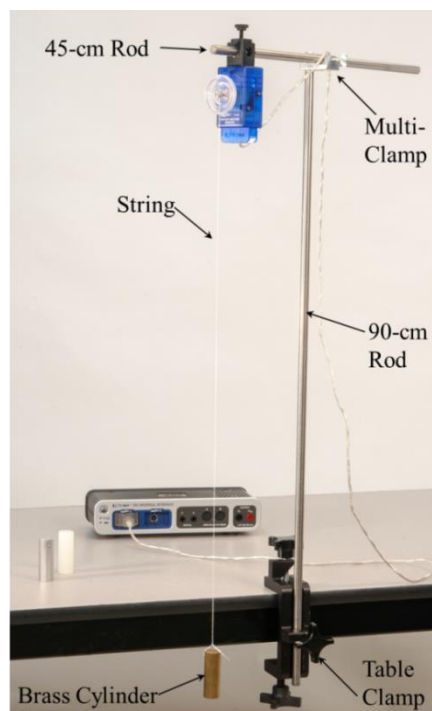

Figure 1: Measuring Pendulum Motion
The purpose of this experiment is to measure the period of a simple pendulum and to use scientific methods to determine the relationships between the period of a pendulum and its length, its mass, and the amplitude of its motion. A Rotary Motion Sensor (see Figure 1) is used to record the motion of the pendulum as it swings back and forth, and various software tools are used to determine the period.
1. Attach the table clamp and 90-cm rod to the table as shown in Figure 1. Use the multi-clamp and 45-cm rod to suspend the Rotary Motion Sensor out over the floor.
3. Tie the brass cylinder to the lower end of the string as shown in Figure 1. You want the string as long as possible, without the cylinder touching the floor.